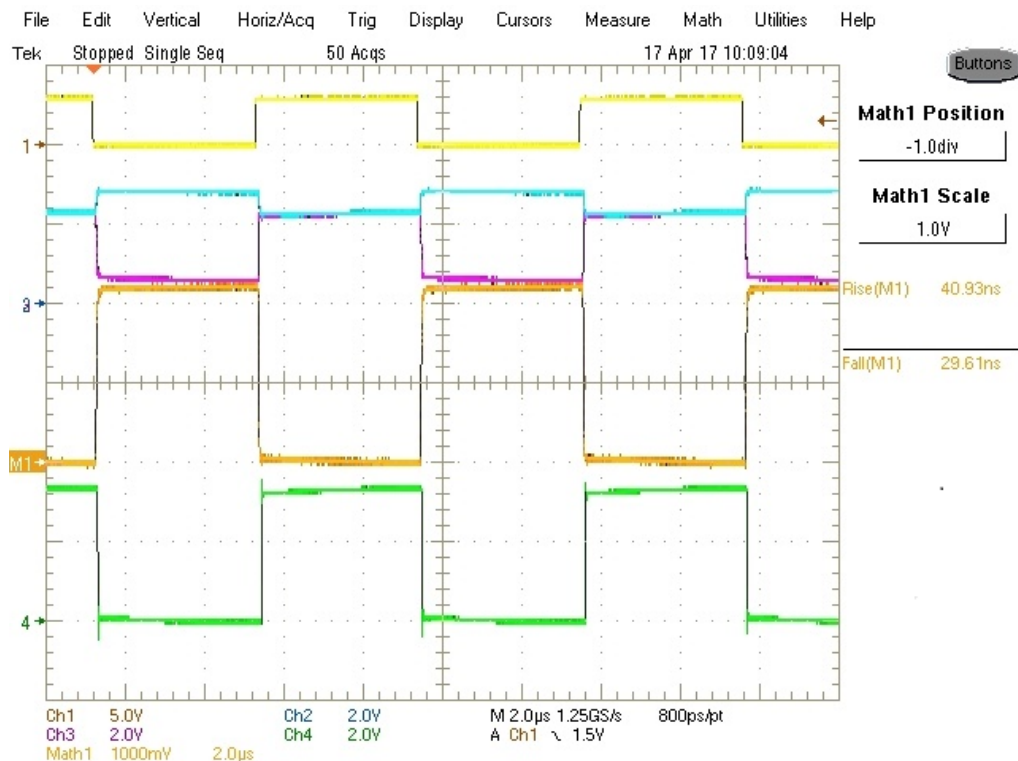
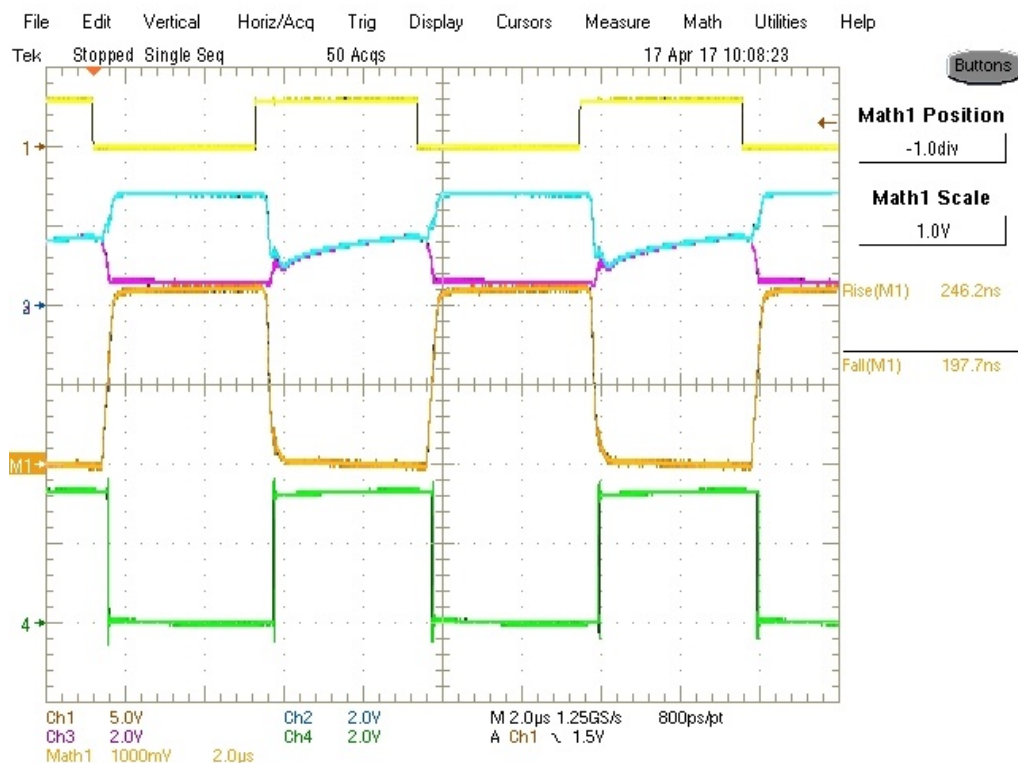
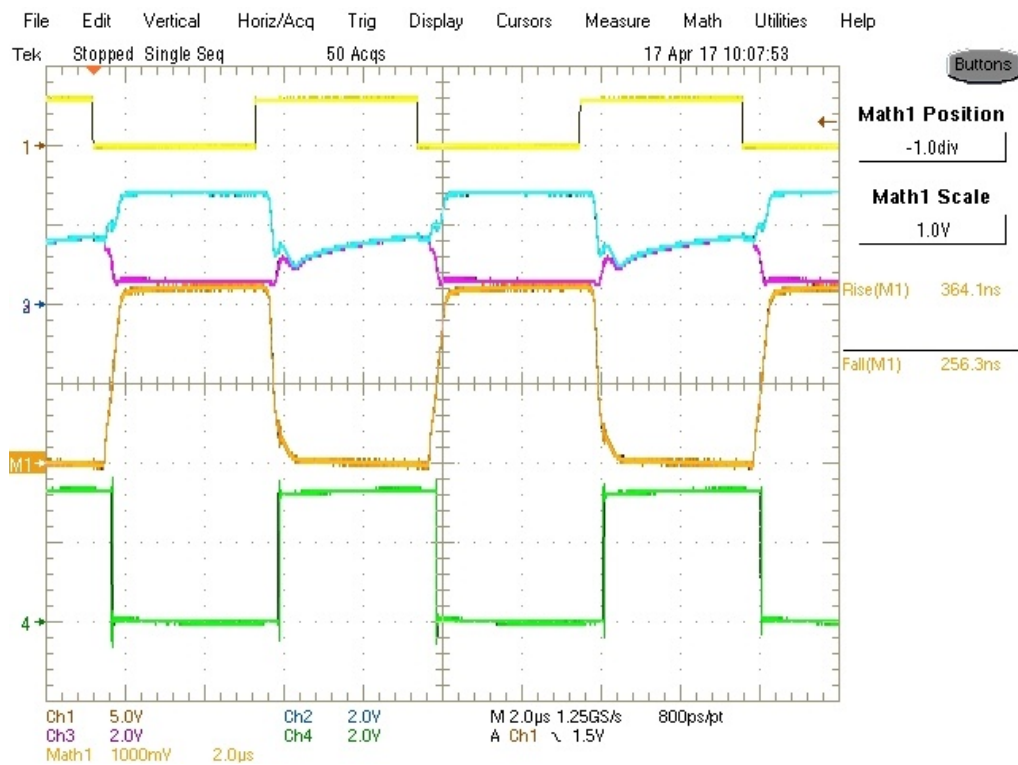

Figure 3. Oscilloscope Plot (Fast Speed) Waveforms and Measurements
Figure 4. Oscilloscope Plot (Medium Speed) Waveforms and Measurements
Figure 5. Oscilloscope Plot (Slow Speed) Waveforms and Measurements
- (5) Use the “Measure” menu of the oscilloscope to set up the following four measurements:
- (6) Ensure that a jumper is installed at J8 (selects fast driver edges by connecting the RS pin to ground) and no jumpers are installed at J5, J6, J7, and J9.
- (7) Enable the function generator. The scope plots should look like the ones shown in Figure 3 on page 10.
- (8) In Fast Speed mode ($R_S = 0V$):
- (9) Move the jumper from J8 to J7 (selects medium driver edges by connecting the RS pin to ground through a 10k Ω resistor). Note: No jumpers should be installed at J5, J6, J8, and J9.
- (10) The scope plot should look like the ones in Figure 4 on page 10.
- (11) In Medium Speed mode ($R_S = 10k\Omega$):
- (12) Move the jumper from J7 to J6 (selects slow driver edges by connecting the RS pin to ground through a 50k Ω resistor). Note: No jumpers should be installed at J5, J7, J8, and J9.
- (13) The scope plot should look like the ones in Figure 5 on page 11.
- (14) In Slow Speed mode ($R_S = 50k\Omega$):